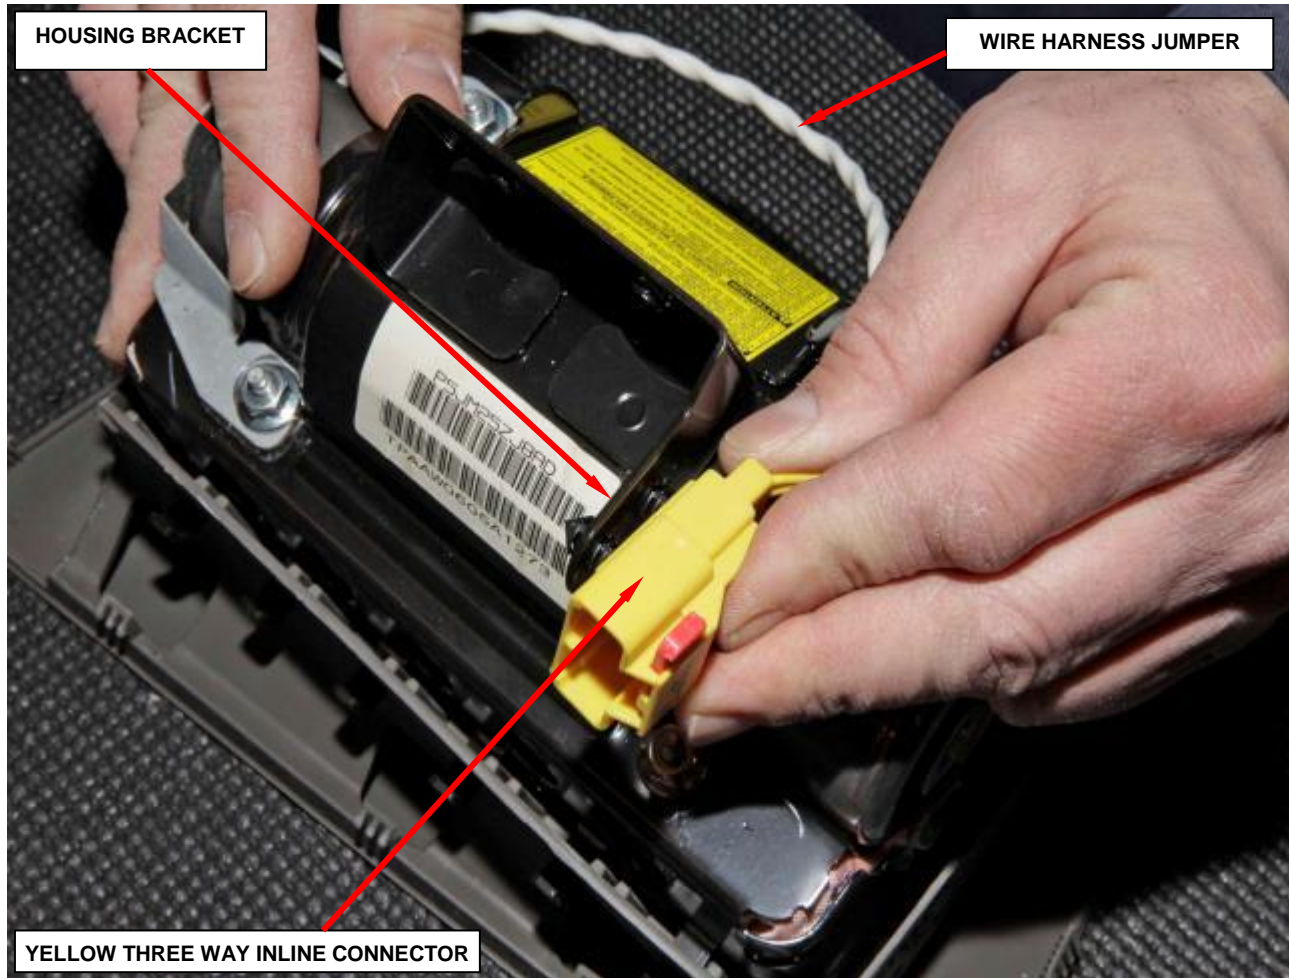

Figure 22 – Inflator Connectors
- d. Release the yellow three way inline connector from the housing bracket (Figure 22).